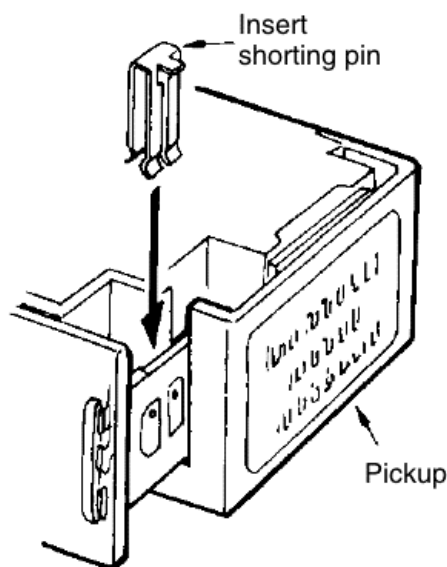

FIGURE 30-32 Insert the shorting pin into the laser pickup to be removed.
- 4** Insert the shorting pin, which is one of the repair parts, into the pickup to be removed (Fig. 30-32).